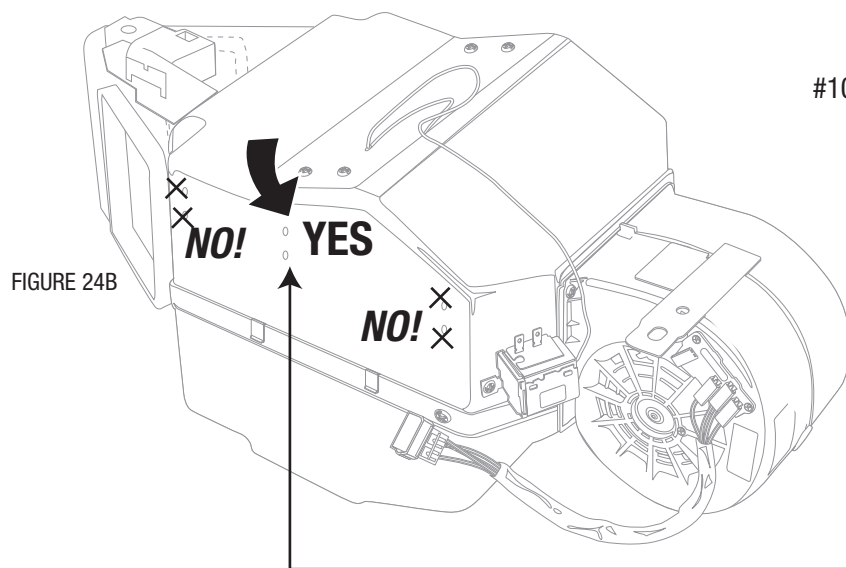

FIGURE 24B
**IMPORTANT NOTE: On the side of the main unit you will see several holes for mounting holes... ONLY USE THE ONES IN THE CENTER FOR THIS BRACKET!** Do not tap into the other holes for any reason (see figure 24B). Also, use a screwdriver and hand-power and do not over-tighten so you don't strip the holes.